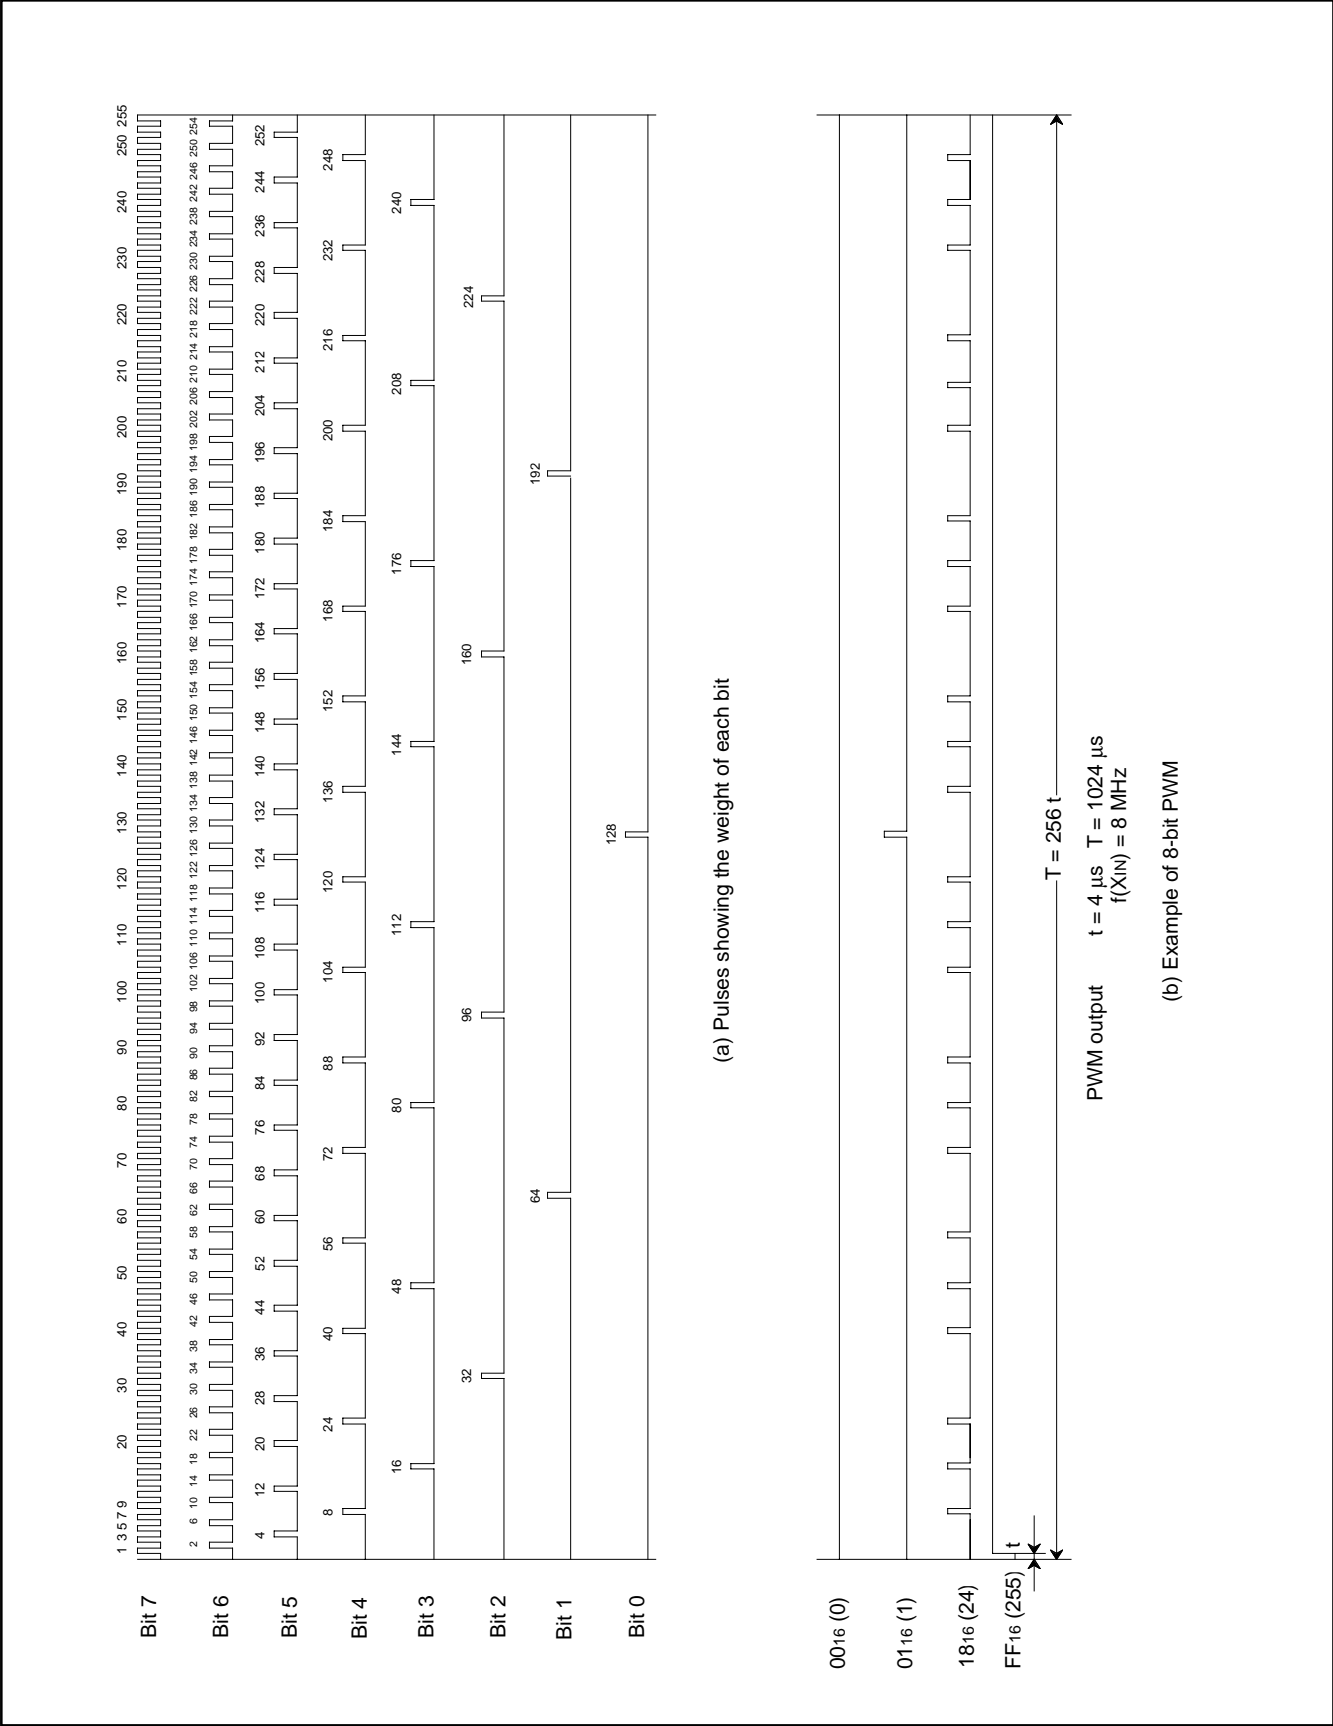

Fig. 8.7.2 PWM Timing
Figure 8.7.2 shows the 8-bit PWM timing. One cycle (T) is composed of 256 (2^8) segments. The 8 kinds of pulses, relative to the weight of each bit (bits 0 to 7), are output inside the circuit during 1 cycle. Refer to Figure 8.7.2 (a). The 8-bit PWM outputs waveform which is the logical sum (OR) of pulses corresponding to the contents of bits 0 to 7 of the 8-bit PWM register. Several examples are
shown in Figure 8.7.2 (b). 256 kinds of output (HIGH area: 0/256 to 255/256) are selected by changing the contents of the PWM register. A length of entirely HIGH output cannot be output, i.e. 256/256.